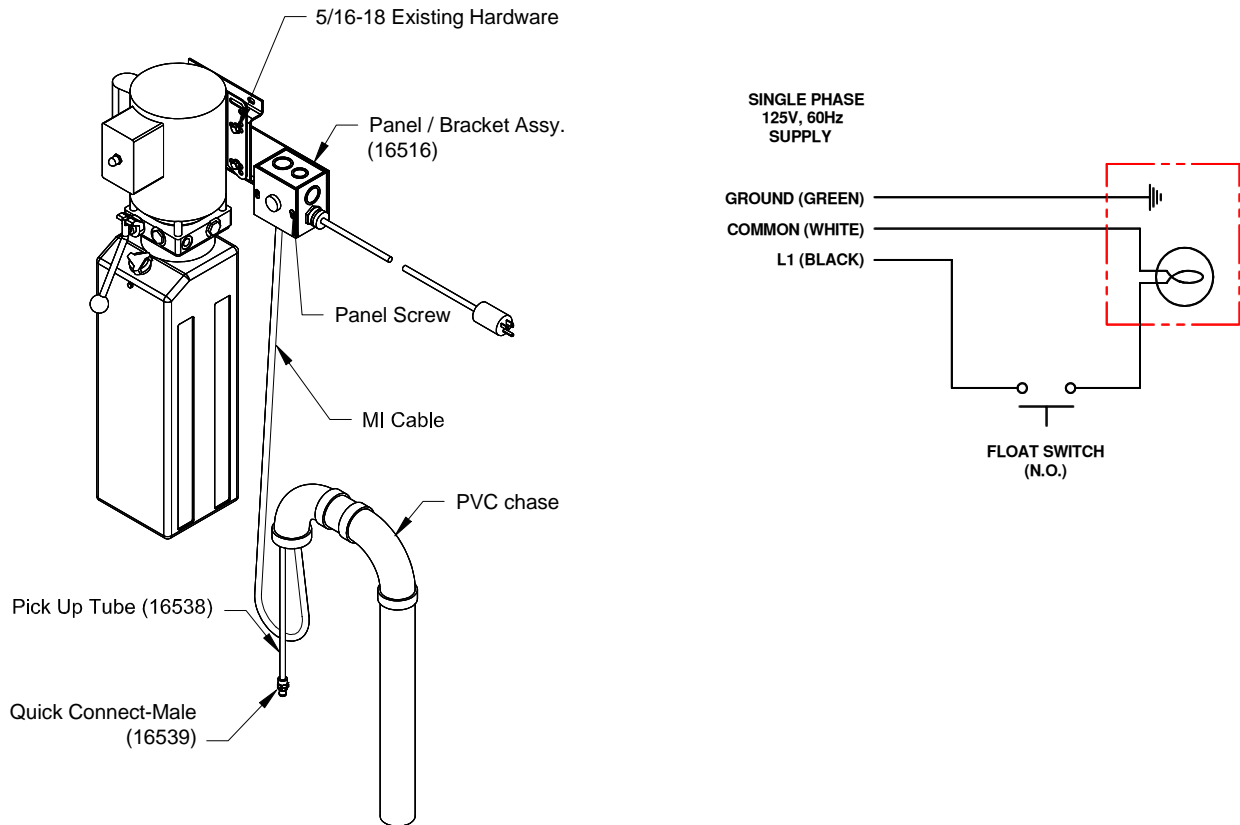

Figure 3
- 10) Locate the Panel Assembly (16516). With the existing 5/16-18 hardware attach this assembly behind the power unit bracket as shown in Figure 3.